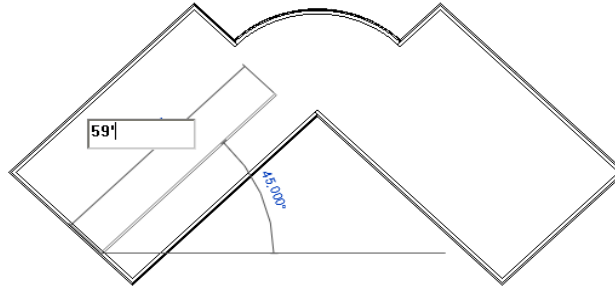

Figure 3-70 Sketching the first interior wall of the Club project
4. Move the cursor 45 degrees upward to the right. When a dashed line appears, enter the value **59'**(**17983 mm**), as shown in Figure 3-70 and then press ENTER.